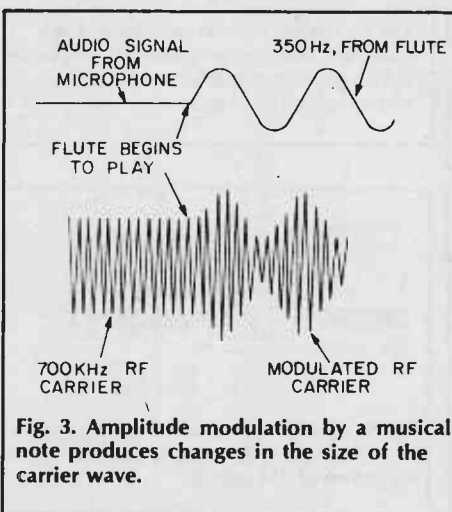
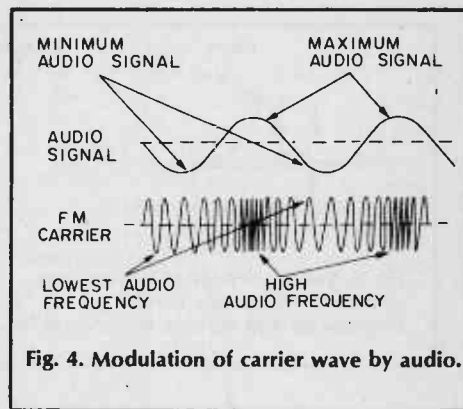

Fig. 3. Amplitude modulation by a musical note produces changes in the size of the carrier wave.
Fig. 4. Modulation of carrier wave by audio.
Fig. 3. Magnetron. Electrons from cathode move in circular orbits inside tube, generating microwaves in cavities. Tube is actually diode in structure, requires external magnet to provide magnetic field.
Fig. 4. Klystron. Electrons passing between electrodes are bunched at regular time intervals by changing voltages. Electron beam passes opening of cavity, produces microwave oscillation or amplification.
To overcome these stumbling blocks, tubes of a radically different design have been developed. Three of these, the magnetron, the klystron, and the travelling-wave tube (TWT) are shown in Figs. 3, 4, and 5.
The magnetron of Fig. 3 has a series of cavities, and the entire tube is operated between the poles of a powerful electromagnet not shown here. The cathode emits electrons which travel in circular paths because of the influence of the magnetic field. The shape of the tube is such that the electrons graze the openings of the cavities, passing energy to them and setting them into oscillation.
**The Klystron.** Illustrated in Fig. 4, the klystron doesn't require a magnet because electrons travel a straight line within its electrodes. Grid voltages are adjusted so that bursts of electrons flow past the cavity openings only at certain times. These bursts are synchronous with the resonant frequency of the cavity, and the electrons transfer their energy to the cavity, developing high power oscillations inside the cavity. The process has been compared with the periodic pushing of a swing to make it go higher.
Practical AM communication systems for speech and music make the carrier amplitude shift smoothly up and down, so that the tips of the carrier wave conform to the shape of the audio waveform. This is shown in Fig. 3. By this means the modulated radio frequency carrier wave conveys the audio (information) to a distant receiver. If this audio waveform were supplied to a FM transmitter, there wouldn't be any amplitude changes. Instead, the *frequency* itself (the radio frequency carrier wave) is pulled smoothly back and forth, higher and lower, in accordance with the audio signal, as shown in Fig. 4.